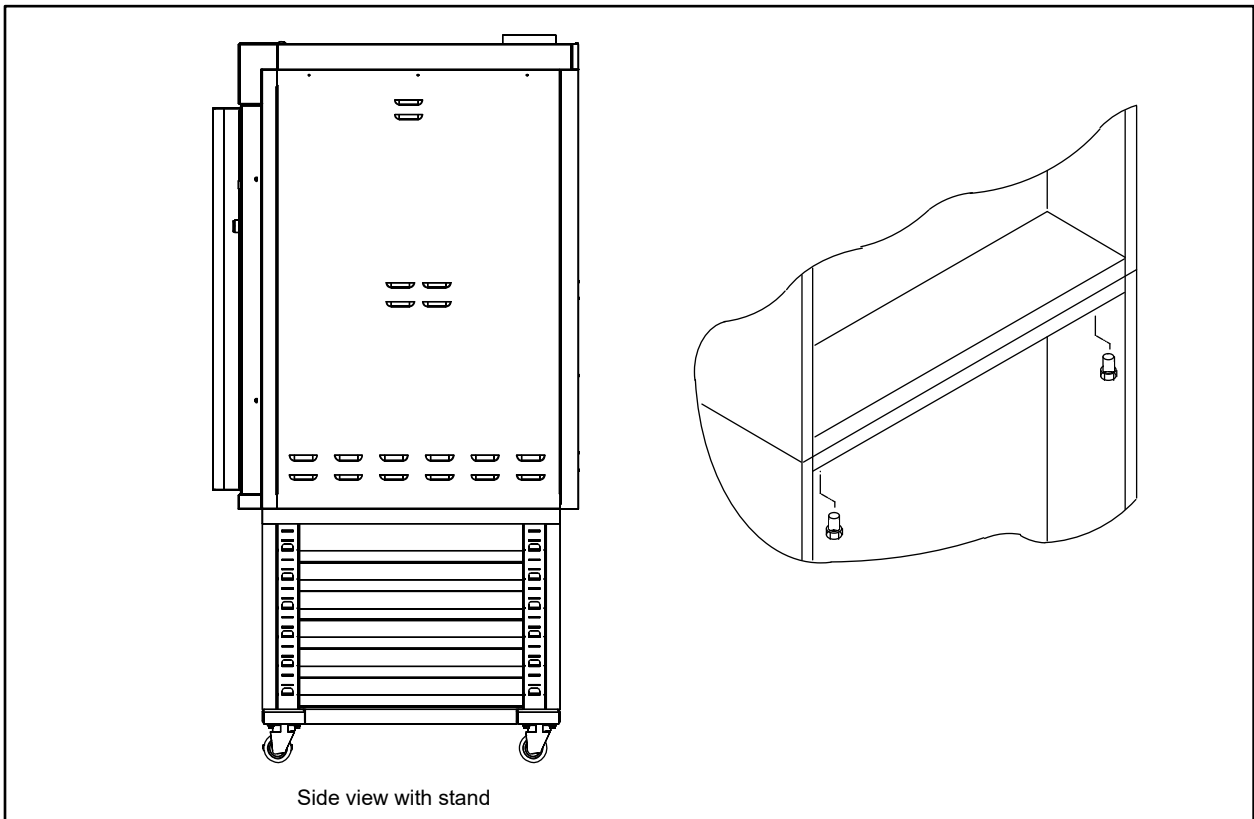

Figure 2
2. Remove the two screws holding the exhaust guard. See Figure 2.